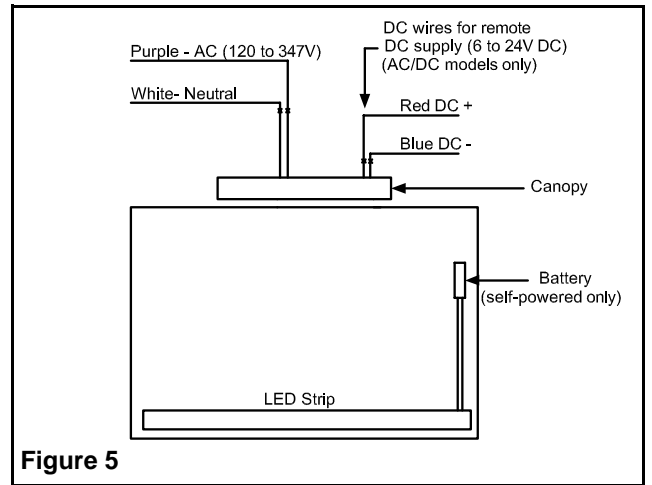

Figure 5
5. Make the proper connections, our system accepts an input voltage of 120 to 347VAC (see fig. 5). Connect the purple (120 to 347 VAC) and white (Neutral) leads to the building utility. Feed excess wire into the junction box. For remote powered DC units, connect the red wire to the positive of the DC supply and the blue to the negative (6 to 24 VDC). Connect the green ground wires to the service ground or the ground connection in the junction box.
Refer to fig. 5 for AC & DC wiring.